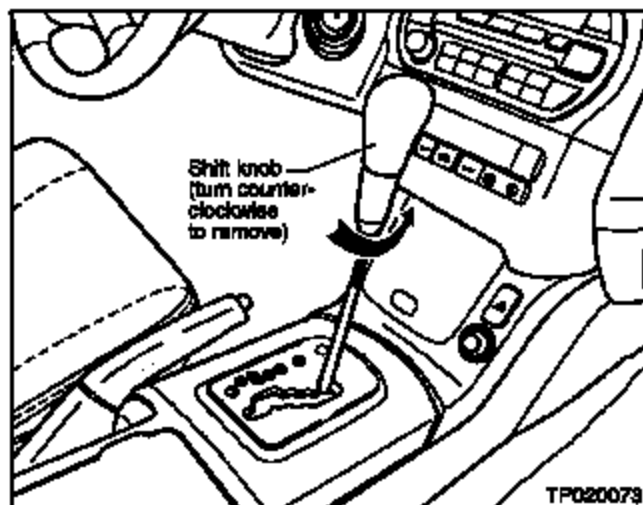

Figure 2
1. Remove the A/T shift knob by turning it counter-clockwise (see Figure 2).